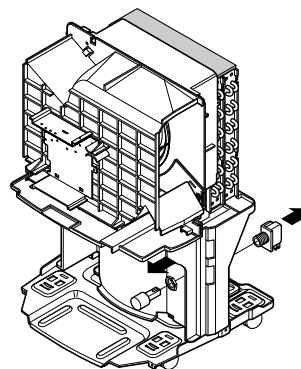

Figure 16
1. Turn the nut counterclockwise and pull out the micro switch from the drain pan. (See Figure 16)